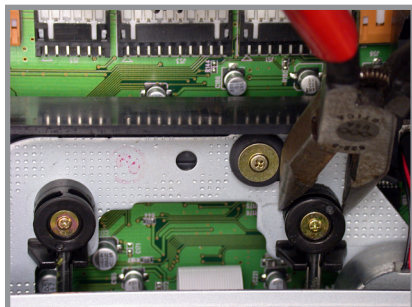

Figure 2
7. Squeeze the right base plastic holder part by using the needle nose pliers and rotate 90 degrees counterclockwise from the current angle indicator point. Refer to figures 2 and 3. Check the small screw on top of the plastic holder by using a small Phillips screwdriver. Turn the screw lightly clockwise if it is loose.